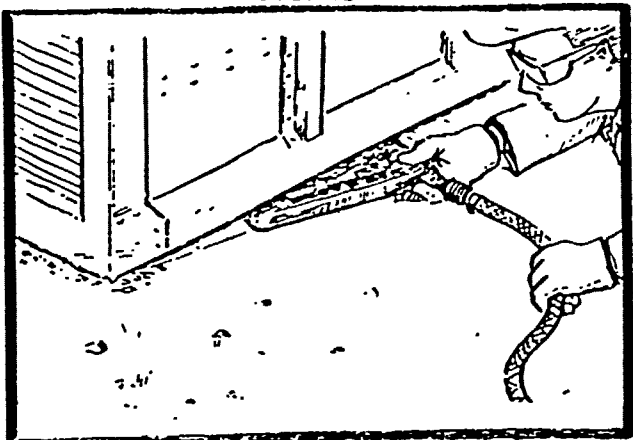

FIG. 29
5. Place the bag under the load with the air inlet protruding. Always place the bag as close to the load as possible (Fig. 29). The smaller the opening, the better. This will maximize the contact area between the bag and the load and make for much more efficient lift.